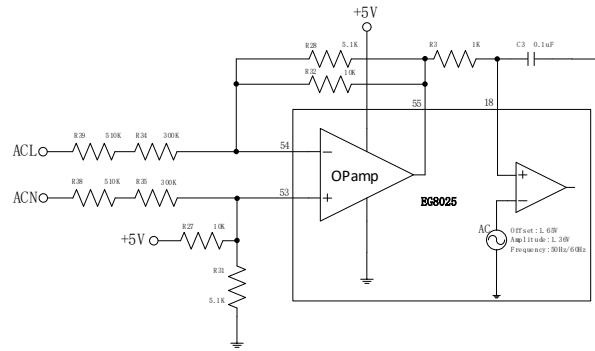
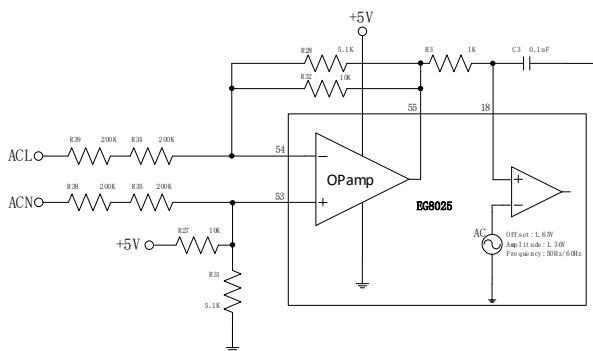

Figure 8.2a The Feedback Network of AC Output Voltage for 230V Inverter
Figure 8.2b The Feedback Network of AC Output Voltage for 120V Inverter
EG8025's voltage feedback process is through measuring AC voltage output of inverter by pins(53,54,55)VAC\_FB. For such voltage sampling and feedback circuit shown in Fig 8.2a and Fig 8.2b, it calculates the error between measured output voltage and sinusoid reference voltage, and adjusts the output voltage accordingly.
EG8025 uses an external resistor network consisting of differential amplifier for output voltage feedback as shown in Fig 8.2a. Note the external resistance must be satisfied that  $(R39+R34)$  equals  $(R38+R35)$  and  $(R28 // R32)$  equals  $(R27 // R31)$ . ( Notes: Here the symbol // means parallel.)
**For inverter of output voltage 230V, the application circuit is shown in Fig 8.2a.**
$$V_{out\_DC} = \frac{R31}{R27+R31} \times 5V = 5.1K/15.1K \times 5V \approx 1.68V \quad (\text{As Fig 8.2a}) .$$
$$V_{out\_AC} = \frac{R28 // R32}{R34 + R39} \times (V_{ACL} - V_{ACN}) \approx \frac{1}{240} \times (V_{ACL} - V_{ACN}) \quad (\text{As Fig 8.2a})$$
**For inverter of output voltage 120V, the application circuit is shown in Fig 8.2b.**
$$V_{out\_DC} = \frac{R_{31}}{R_{27} + R_{31}} \times 5V = 5.1K / 15.1K \times 5V \approx 1.68V \quad (\text{As Fig 8.2b})$$
$$V_{out\_AC} = \frac{R_{28} // R_{32}}{R_{34} + R_{39}} \times (V_{ACL} - V_{ACN}) \approx \frac{1}{118} \times (V_{ACL} - V_{ACN}) \quad (\text{As Fig 8.2b})$$